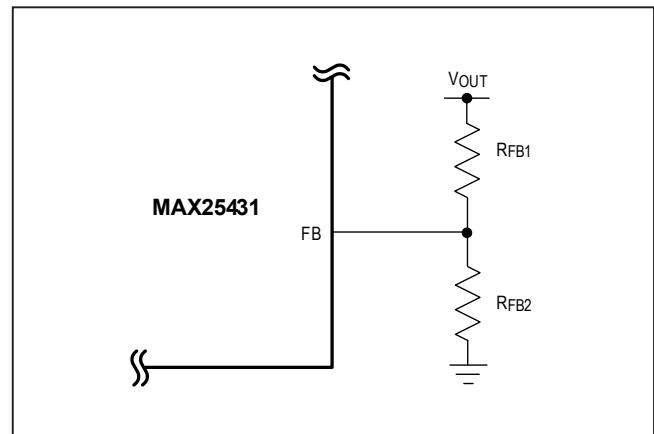

Figure 1. Setting the Output Voltage for the MAX25431
Connect FB to V_{CC} to enable the fixed output voltage (5V) set by a preset internal resistive voltage-divider connected between the feedback (FB) pin and AGND. To externally adjust the output voltage between 4V and 25V, connect a resistive divider from the output (OUT) to FB to AGND (Figure 1). Calculate R_{FB1} and R_{FB2} with the following equation: